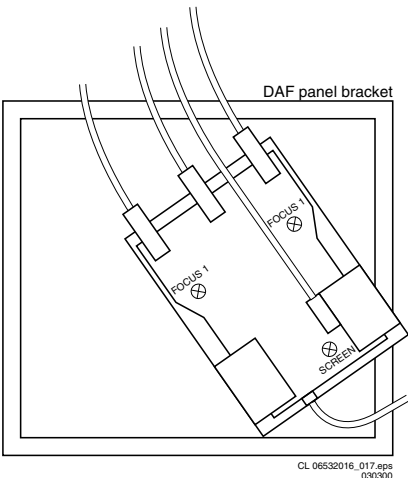

Figure 8-2
1. **For picture tubes with potmeters on the DAF module.** Align the focus, by means of the 2 focus potentiometers on the DAF-module (above the LOT, see figure 8.2) until the horizontal and vertical lines at 1/4 from east and west, at the height of the centre line, are of minimum width without introducing a visible haze. First, align the FOCUS1 (green) and then the FOCUS2 (black) potentiometer.